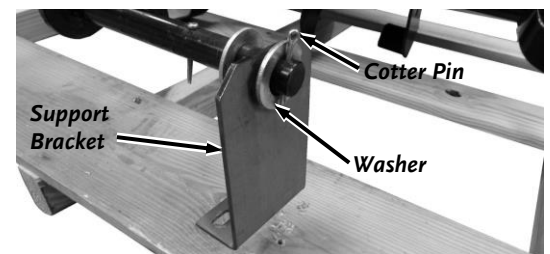

Figure 5
4. Use Pliers to remove the outside Cotter Pins and Washers on the Axle and remove the Support Brackets from the Axle (**Figure 5**).